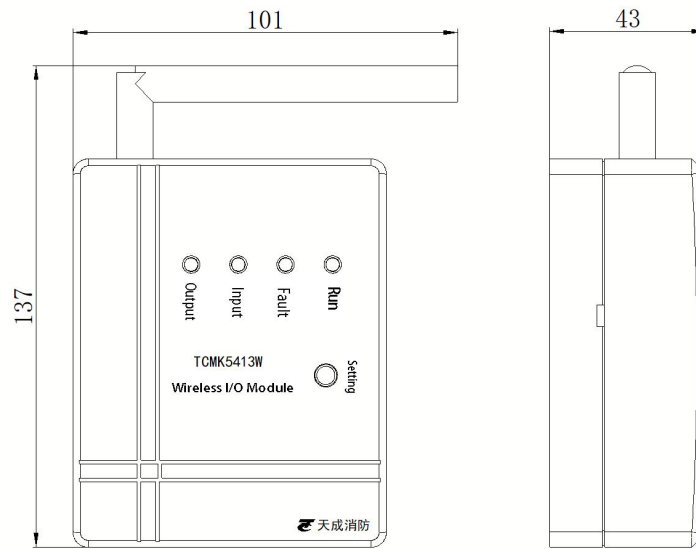

Figure 1 Outline diagram of the module
1. The outline diagram of the module is shown in Figure 1 :